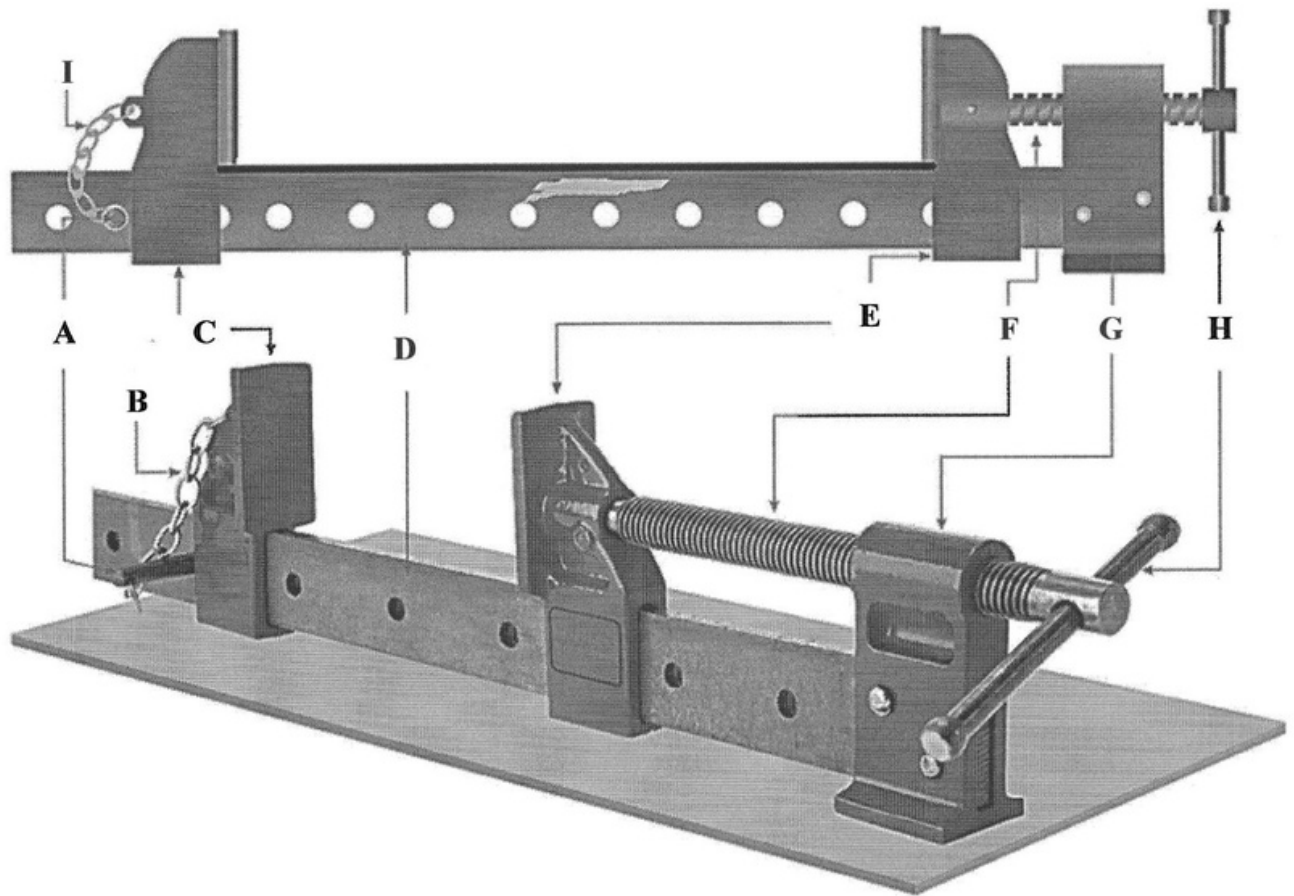

Figure 6
7. **Figure 6** below shows a type of Holding Device commonly used in the Carpentry workshops.
- (b) Briefly describe what the Holding Device in **Figure 6** is used for in the Carpentry and Joinery workshop. [1]